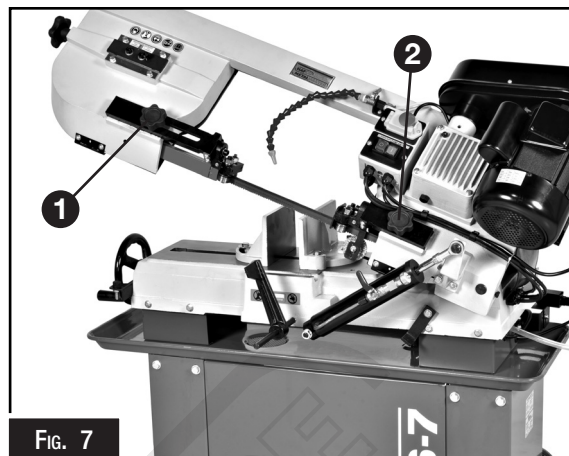
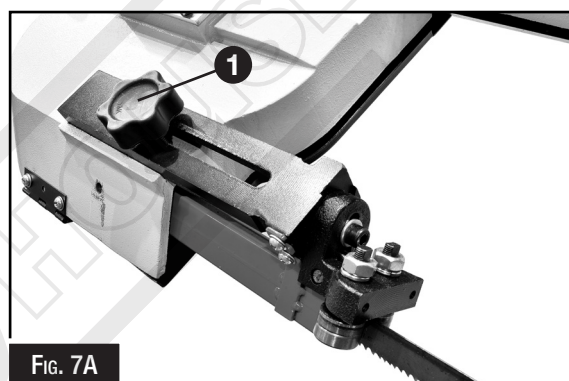

FIG. 7
FIG. 7A
2. Loose knob (1, Fig. 7) and knob (2). Slide blade guide assemblies as close as possible to the material without interfering with the cut. (1. Fig.7A)
3. Tighten knob (1) and knob (2) and connect machine to the power source.